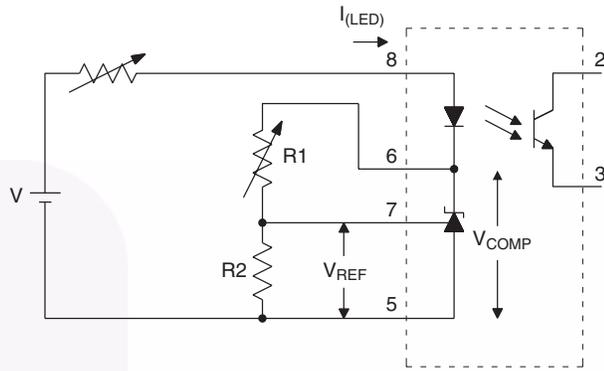

Figure 2. $\Delta V_{REF} / \Delta V_{COMP}$ Test Circuit
5. The dynamic impedance is defined as |Z_{OUT}| = ΔV_{COMP} / ΔI_{LED}. When the device is operating with two external resistors (see Figure 2), the total dynamic impedance of the circuit is given by: